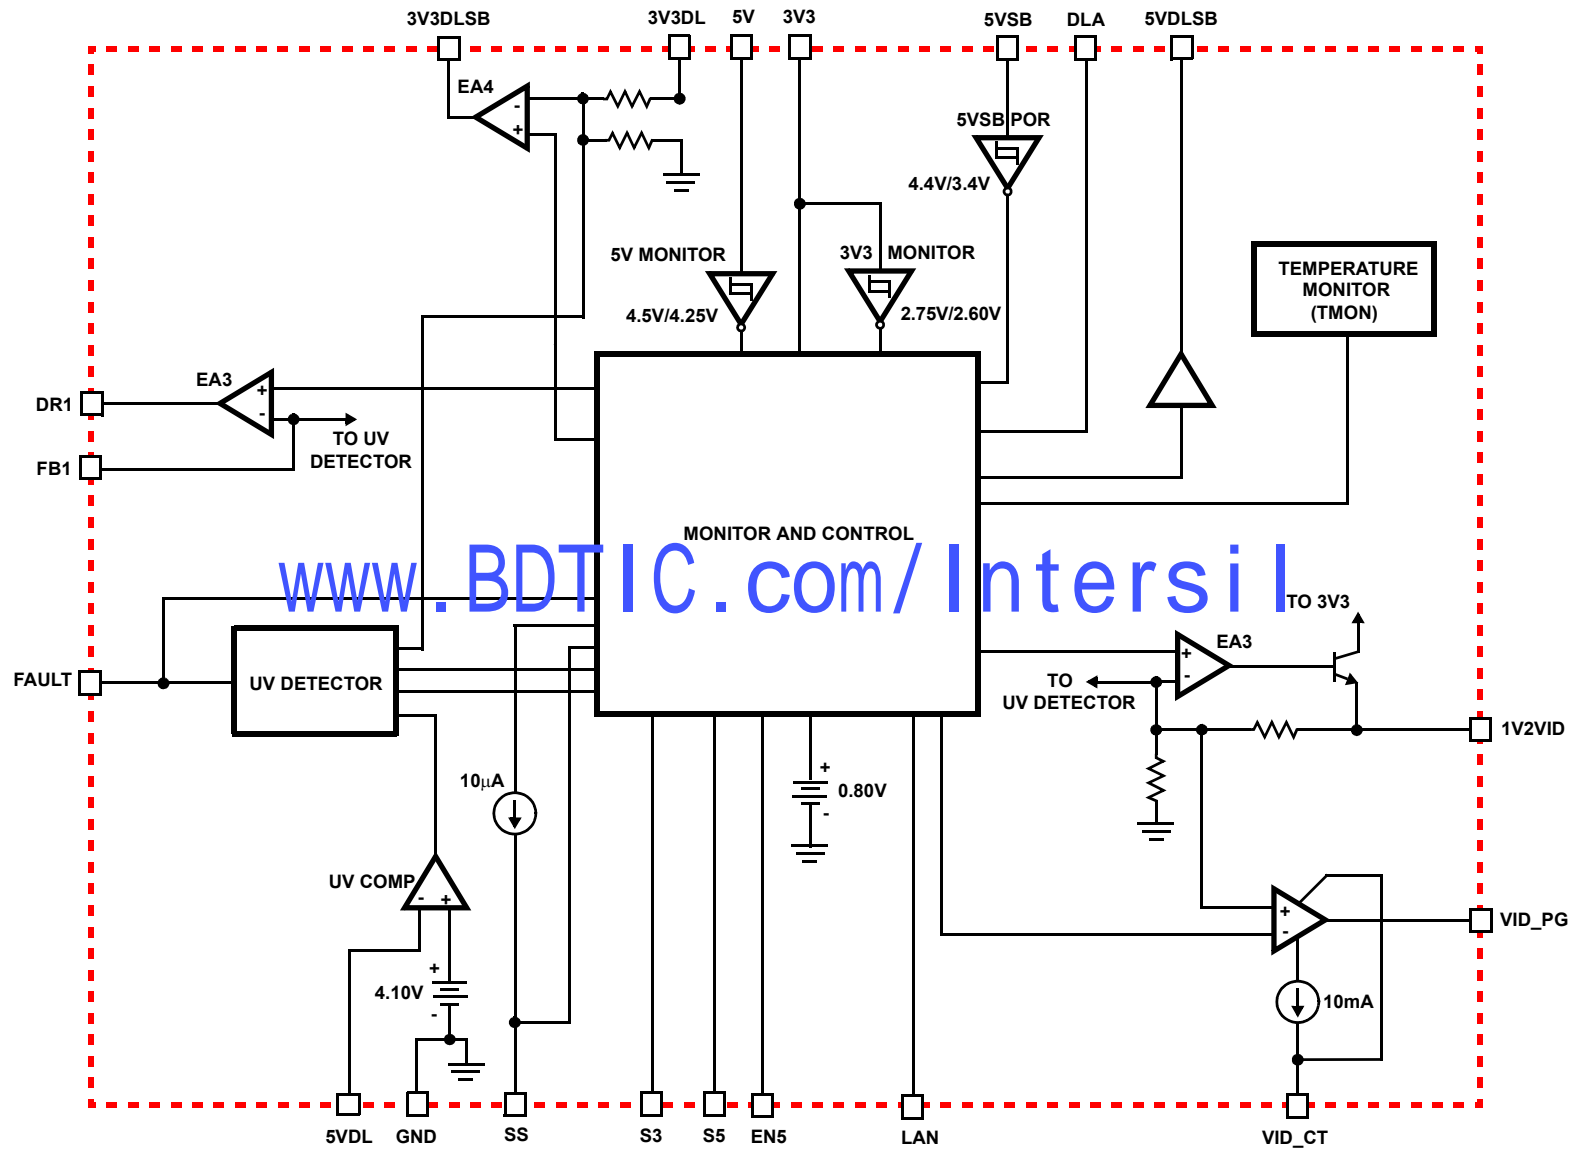

FIGURE 1.
**Electrical Specifications** Recommended Operating Conditions, Unless Otherwise Noted Refer to Figures 1, 2 and 3
**Electrical Specifications** Recommended Operating Conditions, Unless Otherwise Noted Refer to Figures 1, 2 and 3 (Continued)